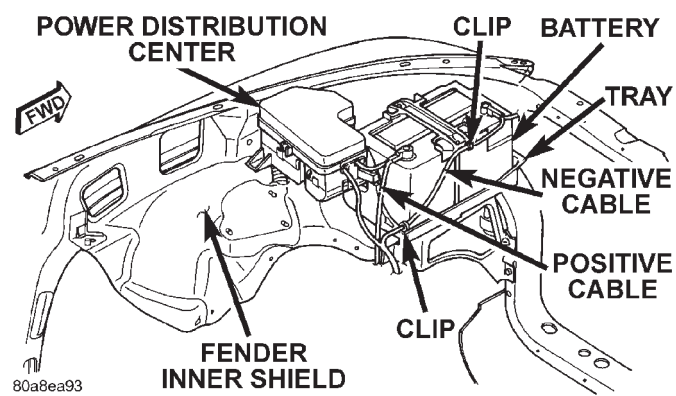

Fig. 21 Battery Cables
(10) Position the battery in the tray. Ensure that the positive and negative terminal posts are correctly positioned. The cable terminal clamps must reach the correct battery post without stretching the cables (Fig. 21).
(11) Loosely install the battery holddown hardware. Ensure that the battery base is correctly positioned in the tray, then tighten the holddown bolts to 1.7 N·m (15 in. lbs.).